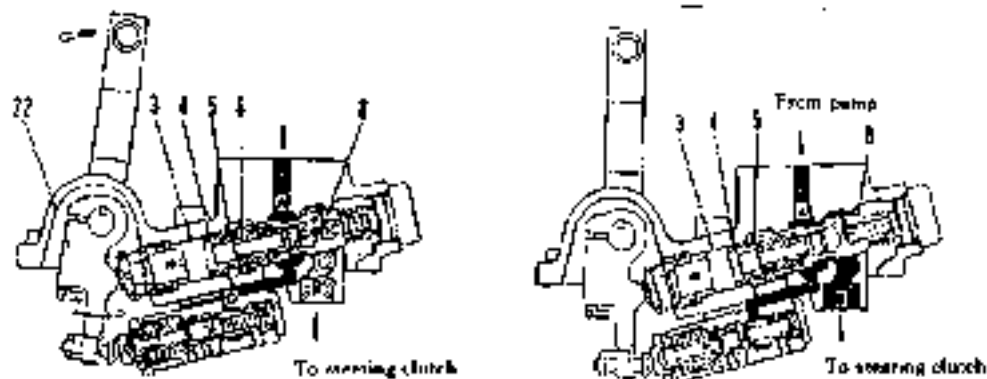

Fig. 2-73
(3) When the oil pressure at the steering valve rises to the maximum value:
When the steering lever is pulled further from state mentioned in paragraph 2, stopper (6) comes into contact with steering valve (8) and spring (6) assumes the minimum installation height. In this state, shaft (3) starts to push steering valve (8) via spring (4) so that the force required to operate the steering lever rises sharply. When the steering lever is pulled further, shaft (3) compresses spring (1) to gradually increase the installation load and the oil pressure in the circuit after port B. When the installation load of spring (4) is maximized and the oil pressure in circuit reaches 1.57MPa, the clutch is released entirely (as shown in Fig. 2-73).